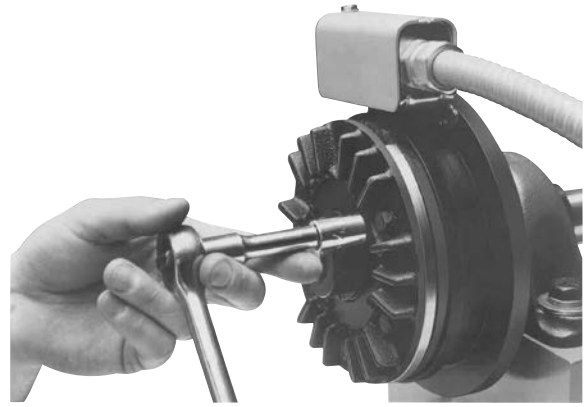

Figure 2
2. Remove hex head capscrews, washers and lockwashers to loosen the armature segments from the cast iron carrier. (See Figure 2)